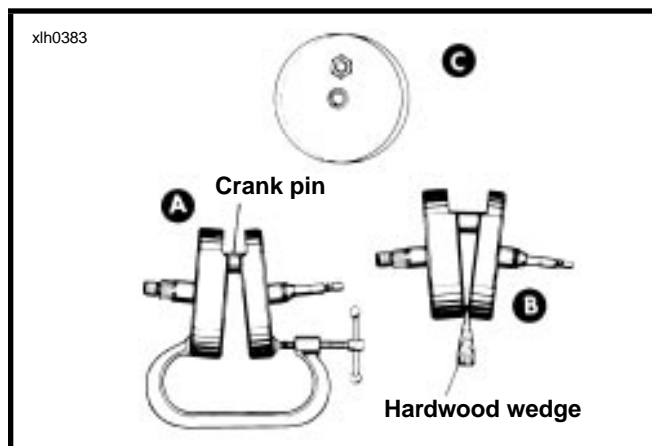

Figure 3-84. Correcting Flywheel Alignment
11. See Figure 3-84. Flywheel may be out of true three ways, A, B and C or a combination of two of the three ways.